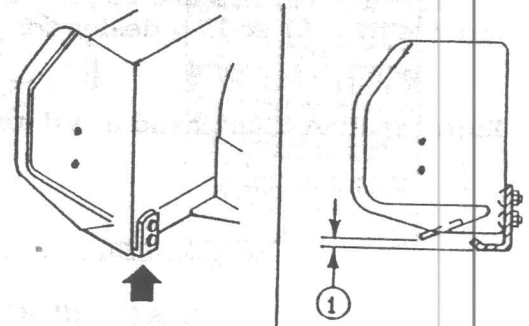

FIGURE 2
- a) **Level Paved Surface** - adjust skid shoes to allow 3/16 to 1/4" clearance (fig. 2, item 1) between cutting edge and surface.
- b) **Uneven or Gravel Surface** - adjust skid shoes to allow 1/2 to 5/8" clearance (fig. 2, item 1) between cutting edge and surface.